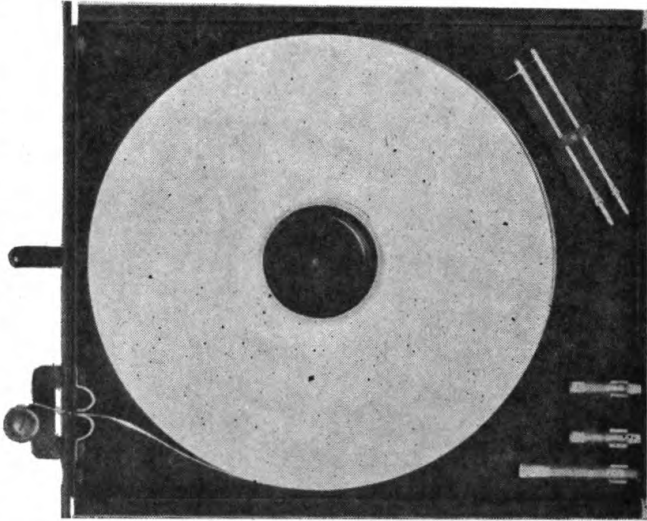
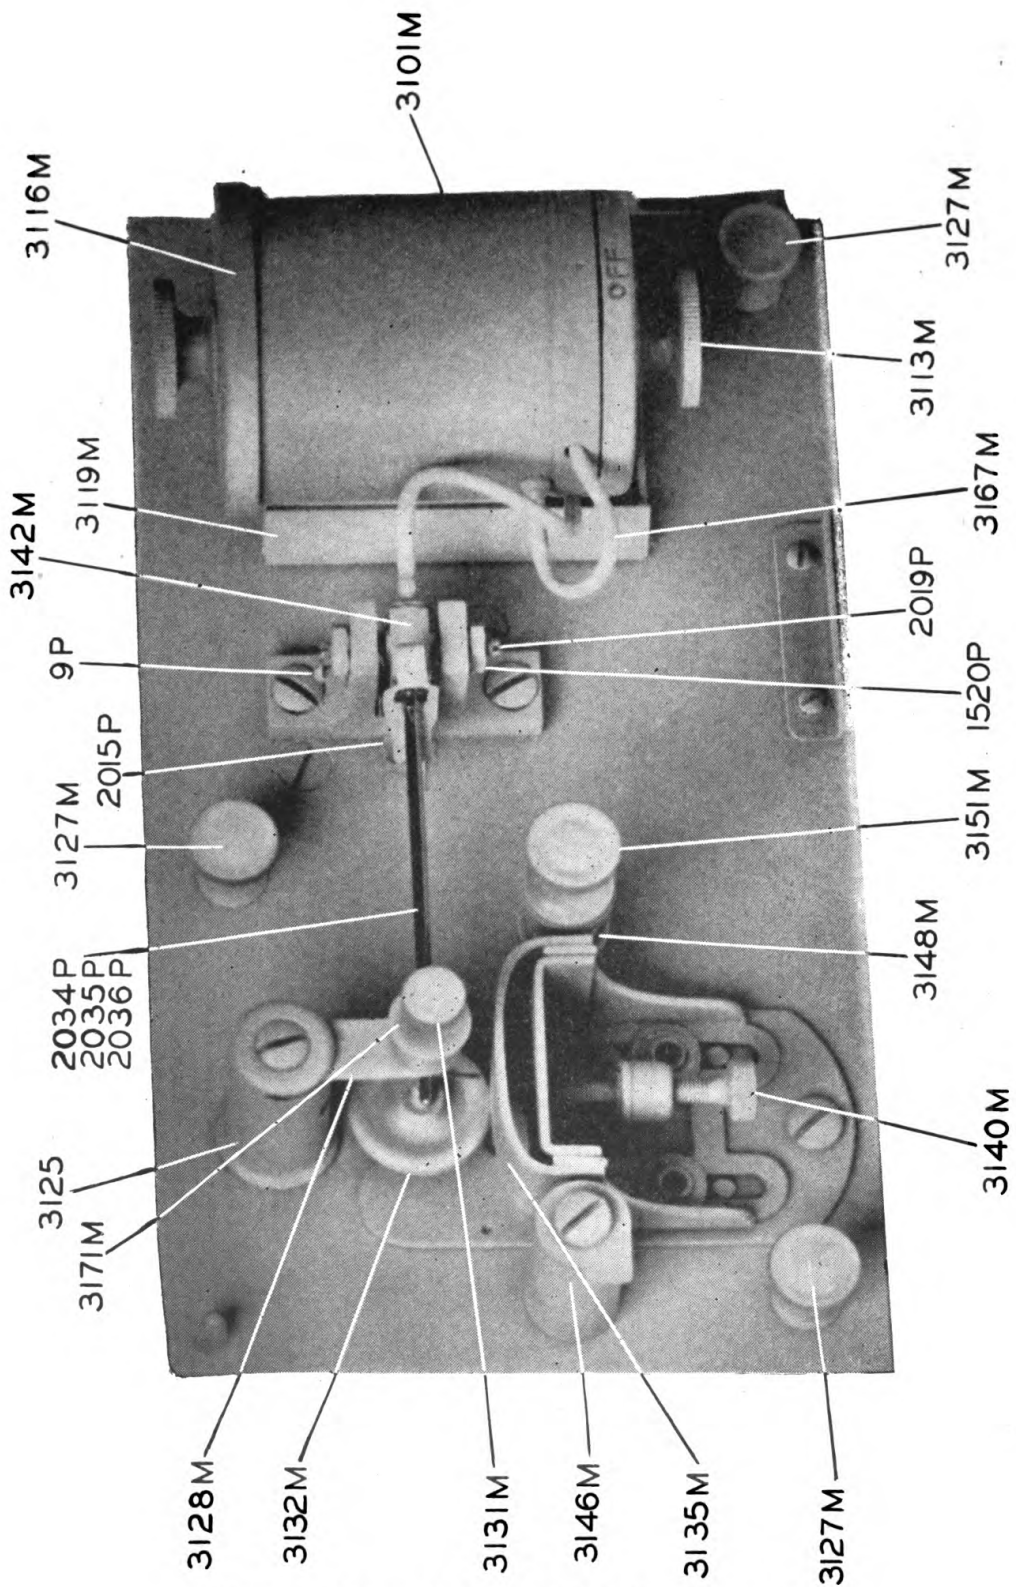

Figure 5—Recorder BC-1016, Tape Drawer With Tape Installed.
Figure 6—Recorder BC-1016, Inker Assembly.
7. SEE THAT A PEN OF THE PROPER WIDTH FOR THE USE TO WHICH THE RECORDER IS TO BE PUT IS IN PLACE. THE FINE LINE PEN (2036P) IS IN PLACE IN THE RECORDER WHEN ORIGINALLY SHIPPED. IF THE RECORDER IS TO BE USED FOR OTHER THAN HIGH SPEED COMMUNICATION PURPOSES, SELECT AND INSTALL THE PROPER PEN. THESE PENS WILL BE FOUND IN THE TAPE DRAWER. (SEE PAR. 7H AND FIG. 5.)
(Note: A panel light housing (3125, FIG. 6) is provided through which an electric lamp (2552P) illuminates the pen and tape while the recorder is in operation. If you ever have to operate the recorder continuously without general lighting, this lamp will enable you to do so.
f. *Locating Paper On Anvil.*—Adjustment knob (3151M, FIG. 6) on which tape guide roller (3148M, FIG. 6) is mounted controls the location of paper tape on the anvil. Paper tape may be moved to any desired location on the anvil by turning adjustment knob in proper direction as determined by corresponding movement of paper tape.
(2) *Ink for Low Speed Recording.*—For low speed recording for instructional and training purposes a suspension type of ink is generally used, with the wide line pen. For this purpose you will be issued Higgins Eternal Black (stock number 6M615), or equal. Since the pen is apt to become clogged when this ink is used, refer to PAR. 7k (1), (2), and (3) for instructions for its use and for cleaning stopped up pens. **CAUTION: BE SURE THAT INK SUITABLE FOR THE USE TO WHICH THE RECORDER IS TO BE PUT IS AVAILABLE.**
h. *Selecting Pen.*—Three pens are supplied with each recorder (one installed and two in tape drawer, FIG. 5 and have the following applications:
(1) *Fine Line Pen (2036P).*—.015 inch line. Its use is primarily for communication purposes, that is, when the recording is made for visual reading. This pen should always be used for high speed recording with solution type ink [Telegraph Blue—see PAR. 7g (1)].
(3) *Wide Line Pen (2034P).*—.050 inch line. With the proper ink, [see PAR. 7g (2)] this pen is used at speeds less than 100 words per minute to produce the inked tape recording required for use with automatic photo cell keyers such as Keyer TG-34 or Keyer TG-10 which convert the ink record into an audible code signal.
i. *Inserting Pen.*—First lower tape anvil (3135M, FIG. 6) to at least 1/4 inch below pen point; swing pen adjusting arm (3128M, FIG. 6) out of the way to the left; select pen of appropriate width; hold pen (at pen point end) in left hand with point down and place other end of pen in pivot block (3142M, FIG. 6), sliding firmly into this block until collar on pen clears catch (2015P, FIG 6). At this point, pen catch holds pen securely in position in pivot block.
j. *Adjusting Pen Stop Screws.*—(FIG. 6) Two variable pen stop screws (3131M) and (3132M) are provided for adjustment of pen swing width. Rear stop (3132M) maintains its adjustment by means of spring tension, but the front stop (3131M) is securely held in place by the lock nut (3171M). The stops can be adjusted for a maximum pen swing of practically the entire width of the 3/8-inch tape. This extreme pen swing will rarely or never be used and should be avoided. It may be used only with low speed recording. As the speed of recording is increased, the width of pen swing must be decreased. The load on the driving mechanism is increased as width of pen swing increases. For longest life of the driving and pen mechanisms, keep pen swing within reasonable limits. Normal operation at reasonable speeds calls for the setting of stops for a pen swing of about 3/16 inch at the most.
k. *Inker Assembly.*—(FIG. 6) Before filling ink cup (3101M), make sure that manual pump operated by knurled knob (3113M) on bottom of cup is at OFF as indicated by arrow at lower edge, and that transflex ink tubing (3167M) is securely in place on both cup and pivot block connections. Fill ink cup with appropriate ink to about two-thirds full. After filling, replace cover loosely so as to allow air to enter cup. **CAUTION: Do not screw cup cover down tight when recorder is in operation or ink will not flow continuously due to lack of air pressure.** Turn manual pump clockwise (to right) until enough ink comes through pen point to form a blot on the tape. Use blotter to absorb excess ink.
(1) If recorder has been used previously and ink does not flow evenly, the pen may need cleaning. This can be done roughly by using a pen reamer (3713M, FIG. 5) to remove ink particles which may have clogged the pen point tube. These pen reamers are in the tape drawer. Periodically, the pen should be removed from recorder and washed in appropriate solution. For certain inks (Telegraph Blue), warm water is satisfactory. For other inks, a suitable solvent should be used.
(2) Leave pump at ON when recorder is in operation. If recorder is to be transported with ink in cup, remove ink in pen, transflex ink tubing and pen block by turning knurled knob on bottom of cup counter-clockwise (to the left) until ink has been pumped back into cup. Then leave pump at OFF and screw ink cup cover down tight. Suspension type inks have a tendency to precipitate solid matter. If ink of this type is left in the pen point for too long a period, such precipitation may occur and will necessitate cleaning of pen point. When recorder will not be used for a reasonable time, withdraw the ink from the pen and transflex tubing into the cup in the manner described above. This will reduce chances of the pen point becoming clogged. This precaution is not necessary when ink of the solution type such as Telegraph Blue is used.
(3) The ink cup can be raised by sliding it upwards in its bracket (3119M, FIG. 6). Ordinarily this is not necessary, but with certain suspension types of thick ink, (such as Higgins Eternal Black), especially when it is used with the wide line pen (which requires a more than normal flow of ink), better operation may be secured by raising the ink cup. This allows gravity to aid the normal ink flow due to capillary action. If ink flow is too free, lower the ink cup.